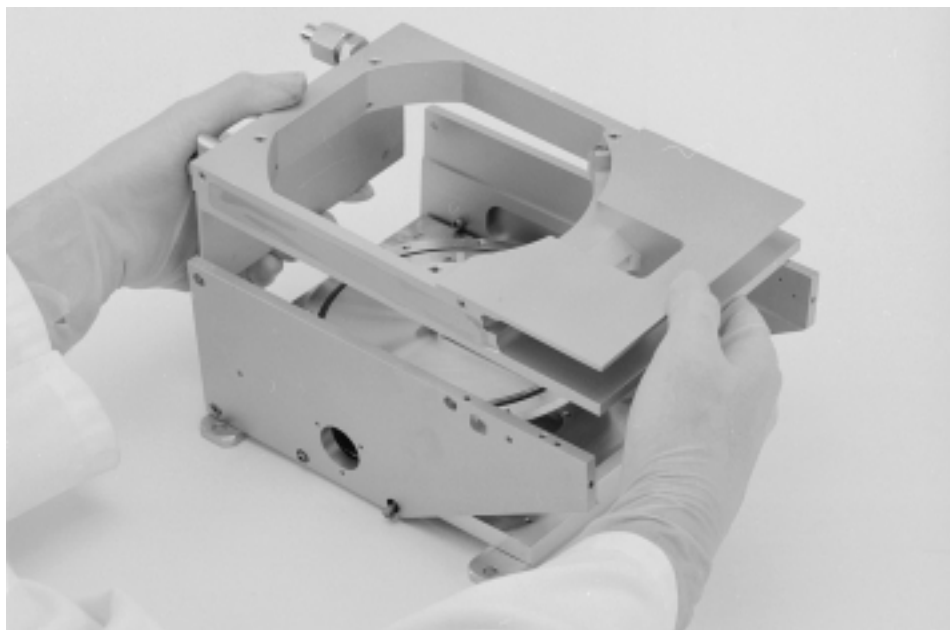

Figure 6-16. Removing the coil housing
Step 16: You should now be able to lift the coil housing free of the pole pieces, as shown in Figure 6-16. If not, further loosen the bottom row of screws that secure one of the pole pieces to the source base plate.